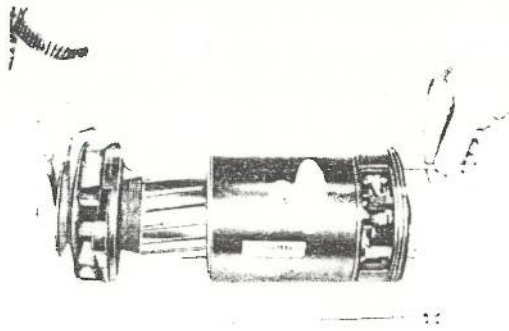

Fig. 10-44
- (2) Remove all the through bolts fastening the front and rear cover to the body.
- (3) Remove the front cover and armature together with the pulley by lightly hitting the front cover with wooden hammer or hide mallet. (See Fig. 10-44)